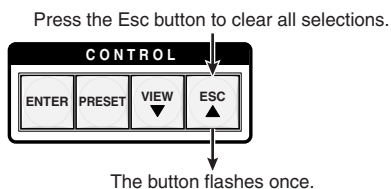

Figure 3-9 — Clear all selections
1. Press and release the Esc button (figure 3-9).